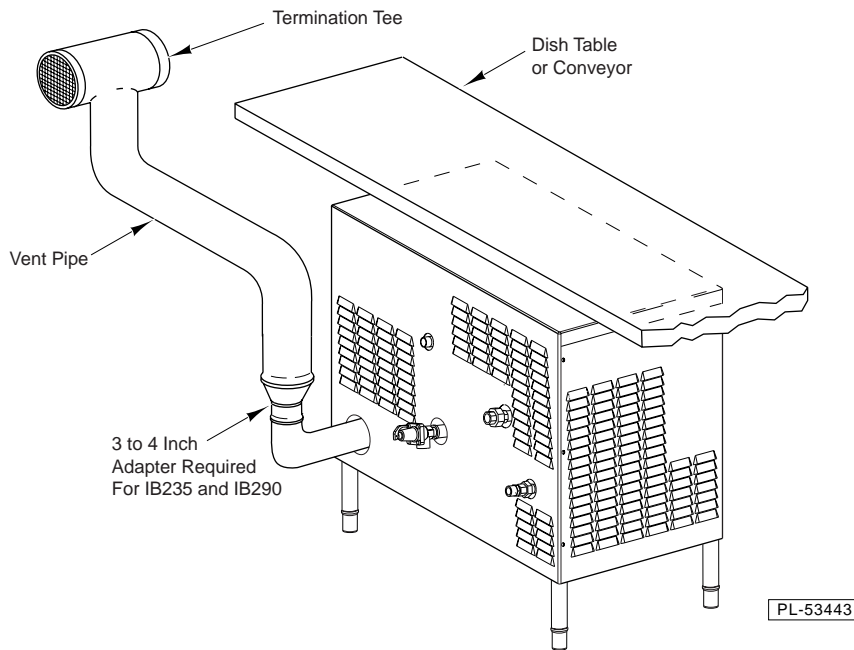

Fig. 4
3. Freely vented into the room or space where it is installed (Fig. 4), provided that: